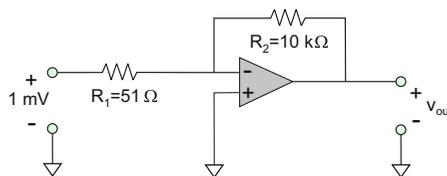

Fig. 5.12. An inverting amplifier circuit with an applied input voltage of 1 mV.
**Exercise 5.5:** Solve the inverting-amplifier circuit shown in Fig. 5.12, i.e., find the output voltage  $v_{\text{out}}$  with respect to common.